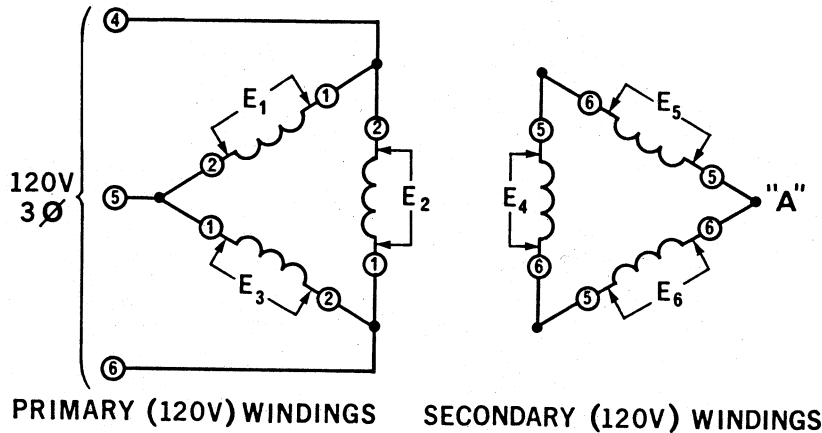

Figure 1-8.
4. a. The circuit shown in Figure 1-8 has three transformers connected in a _____ configuration.